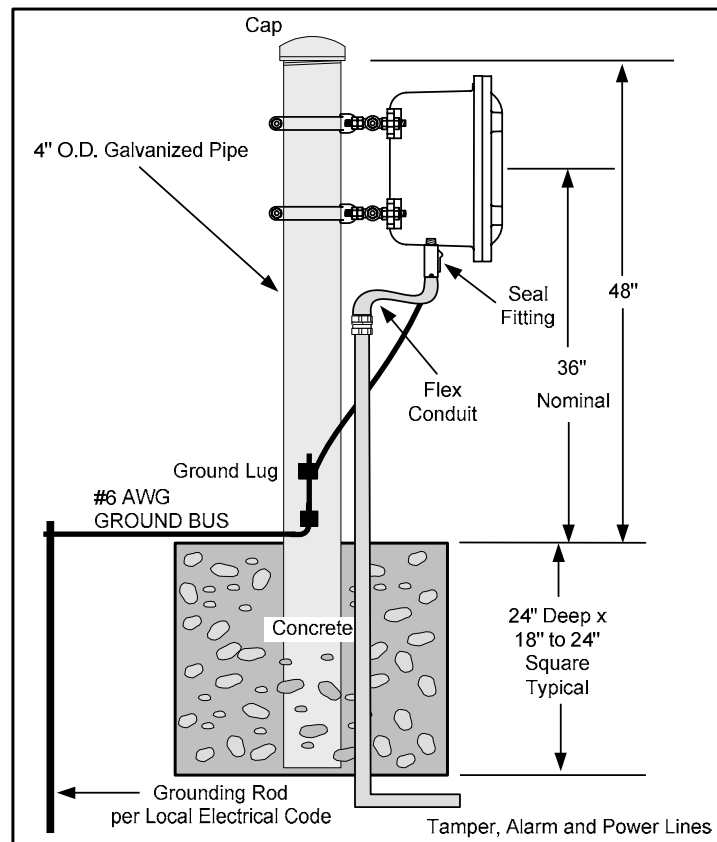

Figure 15 – Typical Mounting Detail
1. Prepare a rigid mounting surface for the Model 310B-33456 Transmitter and Receiver. Do not mount units on a cyclone fence or any vibrating surface. A recommended mounting post is a 3 ½ inch (9cm) galvanized pipe (outside diameter 4 inches, 10cm), sunk into the ground in a concrete base, and protruding above ground level to a height of 4 feet (1.2m). Mount the Transmitter and Receiver 2 ½ to 3 feet (0.75 to 1.0m) above ground level and allow for height adjustment of at least plus or minus 6 inches (15cm). Height adjustment may be required during final alignment to achieve optimum protection pattern. See Figure 15. A “Seal Fitting” is required between sensor and rigid conduit. Flex conduit may be used in lieu of rigid. Check local standards for availability of use.
5. To reset the link to the normal non-alarm condition, 5-15 VDC must be applied to terminal “Reset” on the Model 310B-33456R. (See Figures 15 and 18.)